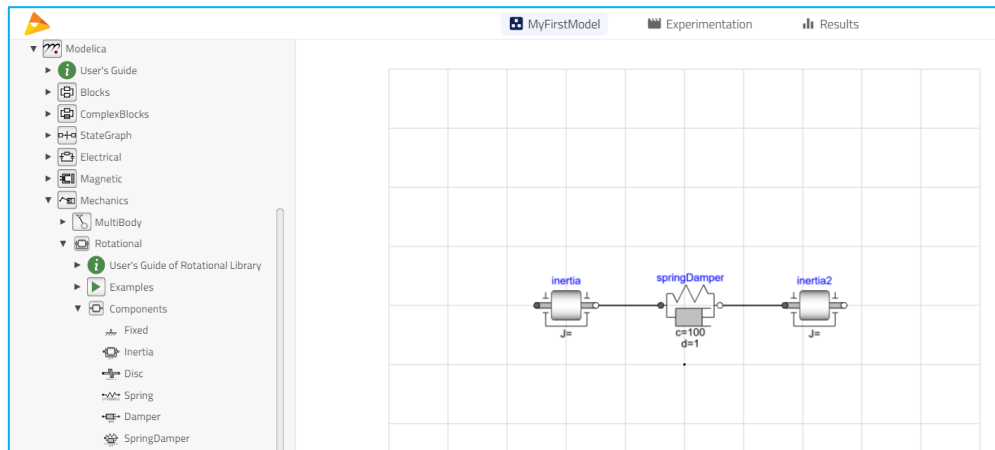

Figure 9 Connected components
6. Drag-and-drop two **Inertia** models and a **SpringDamper** model. Connect the components as shown in **Figure 9**.